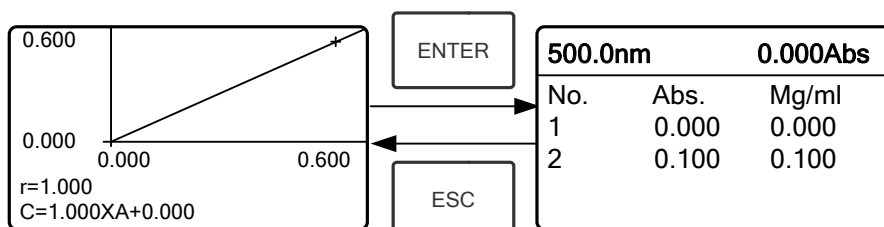

Fig. 4-14
- ★ Pull the Reference solution in the light path and press  to go into the continuous measurement interface. (Fig. 4-14)
- ★ Press  to go into sample continuous measure interface and measure samples. (Fig. 4-14)